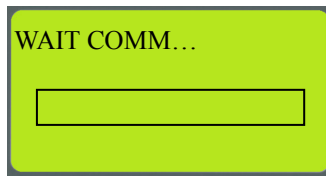

Figure 6-4 **WAIT COMM...**
shown in Figure 6-4.
- Step 7: After the users finish designing page 0, they can download the page. After the users press Esc on the TP04G series text panel used for a long time, menus will be displayed on the screen of the TP04G series text panel. After 1. **D/L AP TP04G ←PC** on the screen of the TP04G series text panel is touched, "WAIT COMM..." will be displayed on the screen of the TP04G series text panel, as shown in Figure 6-4.